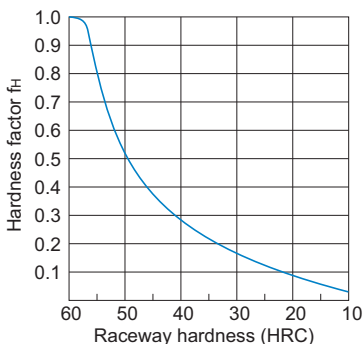

Fig.2 Hardness Factor ( $f_H$ )
- C : Basic dynamic load rating (N)
- $P_C$  : Calculated radial load (N)
- $f_H$  : Hardness factor (see Fig.2 on **B5-6**)